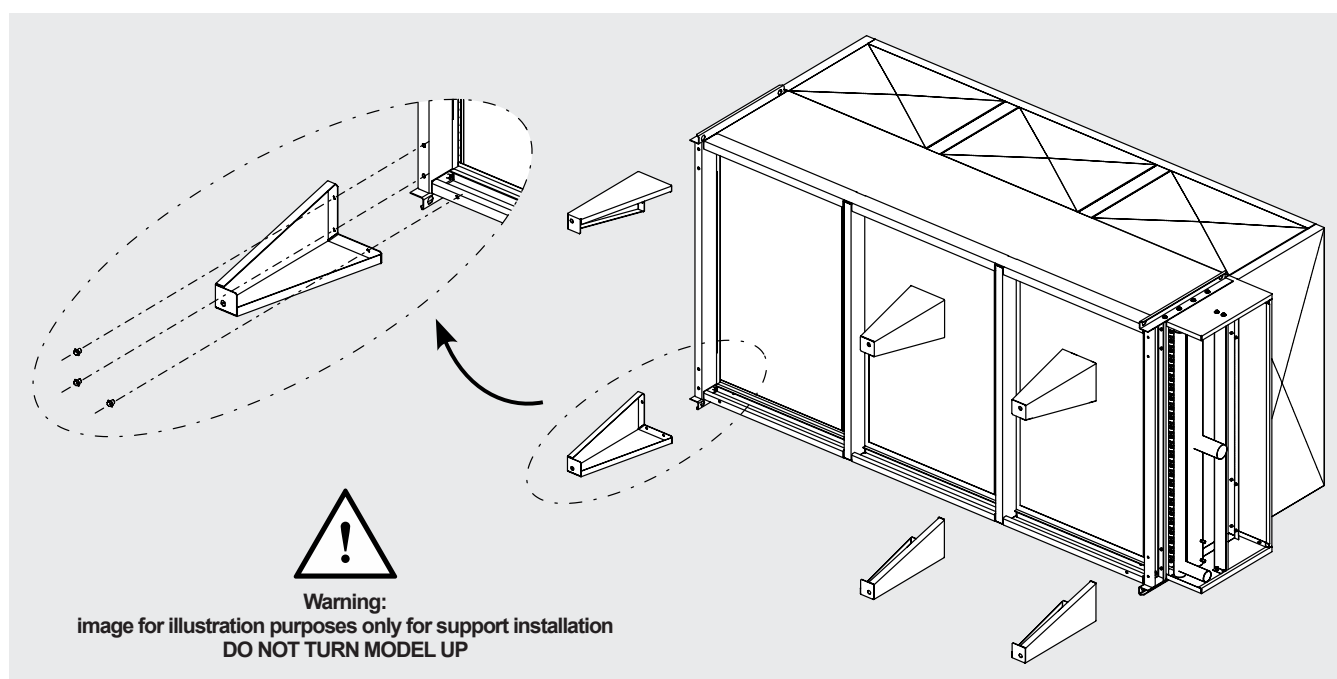

Figure 4
- 5.11.5 Install the supplied supports using the relative screws and washers. Each support must be secured with 3 M8x20 screws and 3 M8 conical serrated washers, Ø 18mm. See Figure 4.